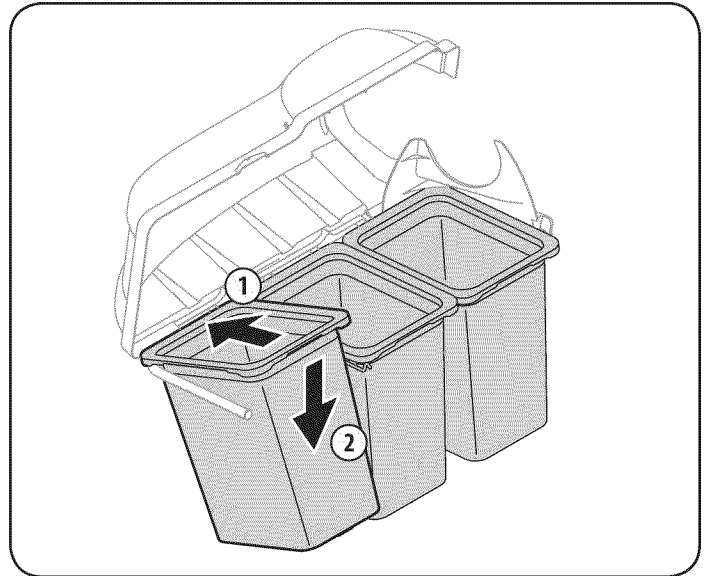

Figure 14
8. Install the bag assemblies onto the bag support brackets by inserting the front edge in first, as shown in Figure 14, and setting the back edge down until it fits into the assembly.